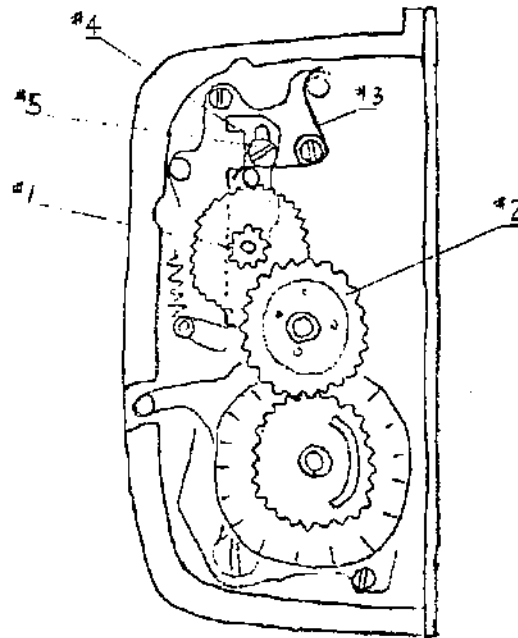

fig. 2
1. Weak recoiling power or disengagement of Spring #3 serving to press Calibration Gear #2 (See Fig. 2).
2. Lever #4 which features the shaft of Gear #1 is held down tightly to move smoothly (See Fig. 2).